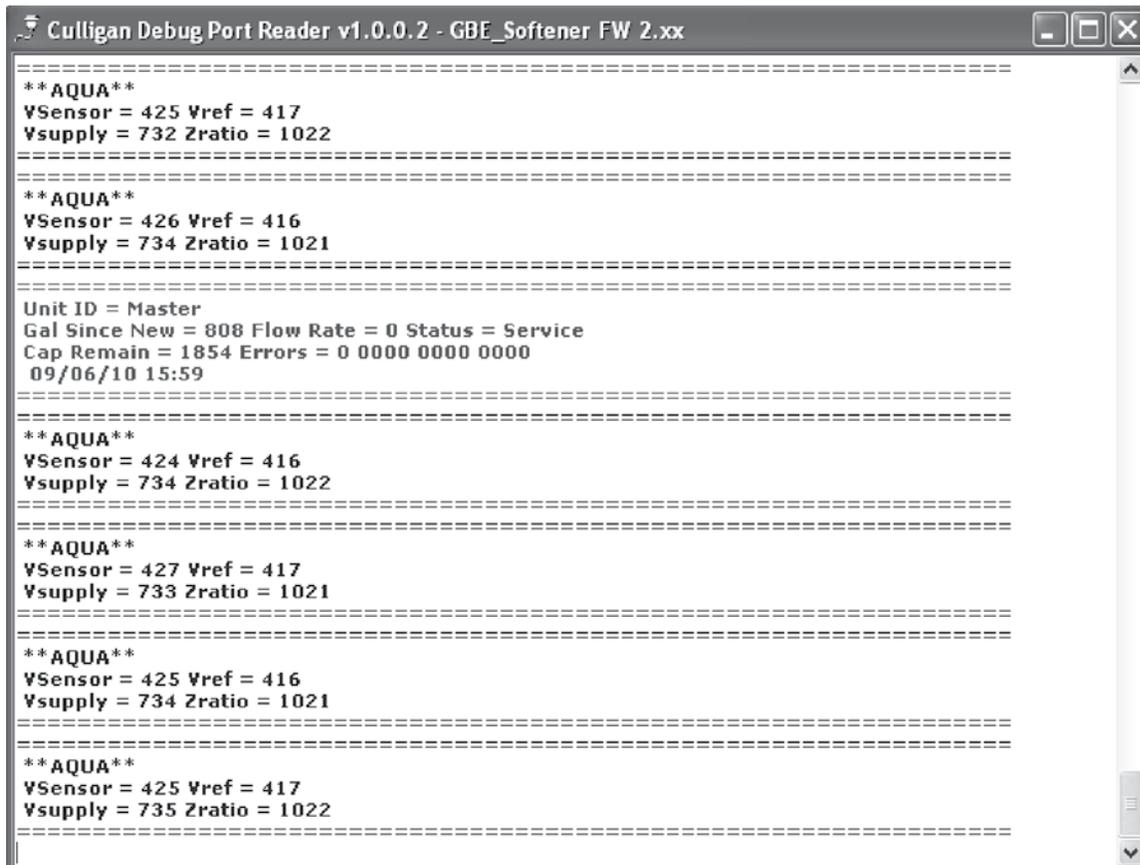

Figure 23. Typical information captured by the USB cable.
4. Click the OK button. The screen displays the data captured via the USB connection. See Figure 23.